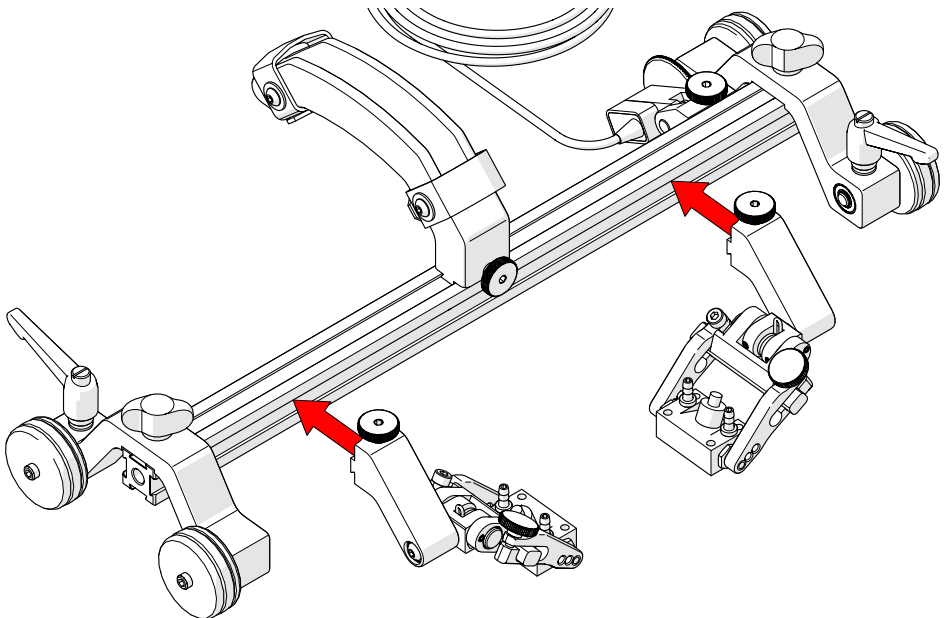

Fig. 10 - Attach spring loaded probe holders to appropriate configuration
2. Assemble the appropriate configuration (Fig. 10). Attach the spring loaded probe holders to the frame bar where appropriate.